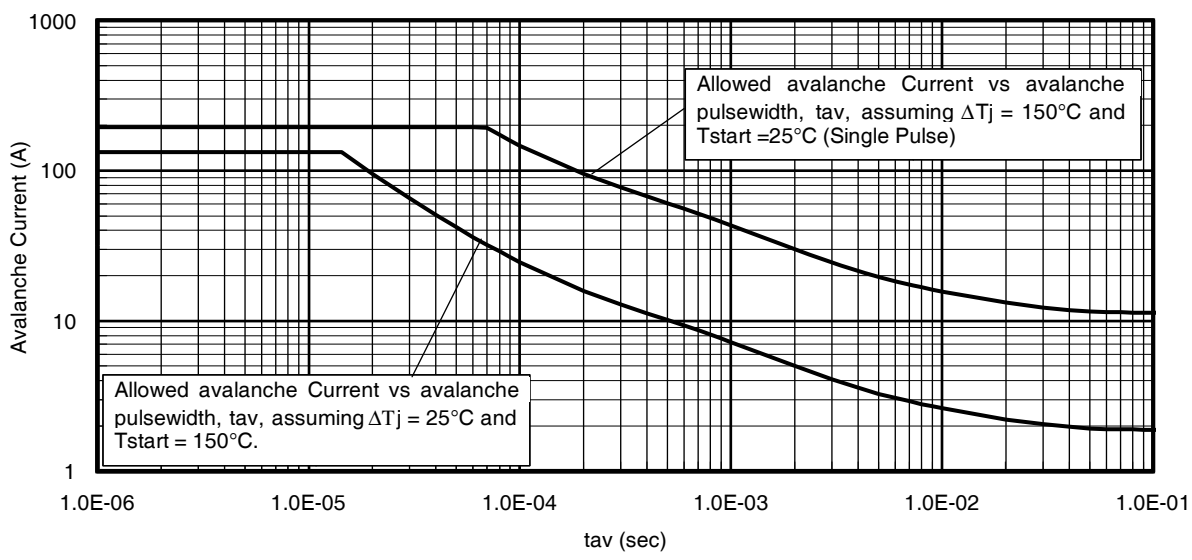

Fig 14. Avalanche Current vs. Pulse width
**Notes on Repetitive Avalanche Curves , Figures 14, 15:**
7.  $\Delta T$  = Allowable rise in junction temperature, not to exceed  $T_{jmax}$  (assumed as 25°C in Figure 14, 15).